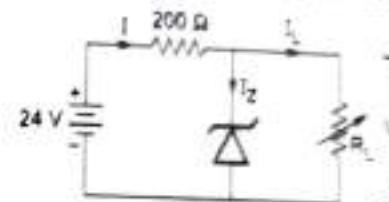

Fig. Q.40.1
**Q.40** For the given circuit (Fig. Q.40.1), If,  $V_Z = 12 \text{ V}$ ,  $I_{Z\min} = 1 \text{ mA}$  and  $I_{Z\max} = 50 \text{ mA}$ . Calculate Min. and Max.  $I_L$  and  $R_L$  for which zener diode maintains its regulation.